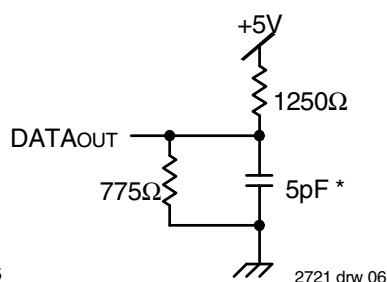

Figure 2. Output Test Load
- Transition is measured 0mV from Low or High-impedance voltage with the Output Test Load (Figure 2).
1. Transition is measured 0mV from Low or High-impedance voltage with Output Test Load (Figure 2).